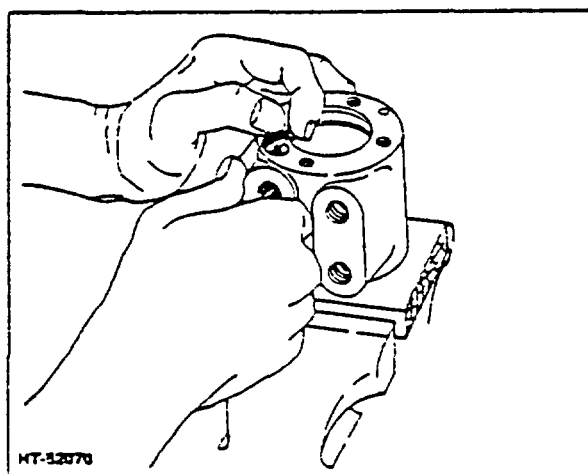

Figure 13. Removing Check Valve Seal Plug
14. With a small bent tool or wire, remove check valve zeal plug from housing (Fig. 13). Do not pry against edge of hole in housing bore.